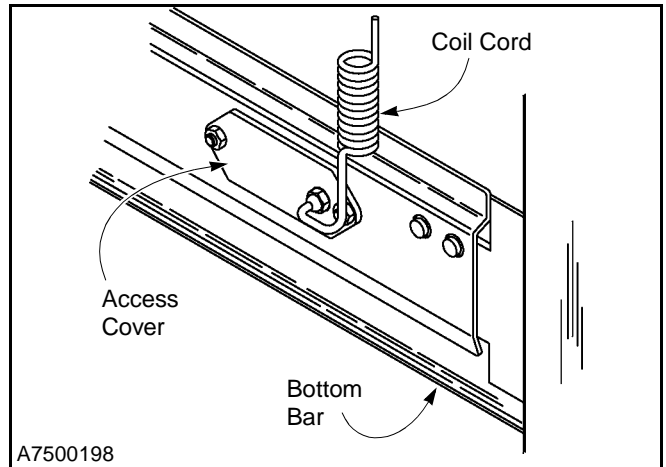

Figure 39
2. Remove the kill switch access cover at the end of the bottom bar assembly. The kill switch is mounted behind the access cover holding the coil cord. (See Figure 39.)